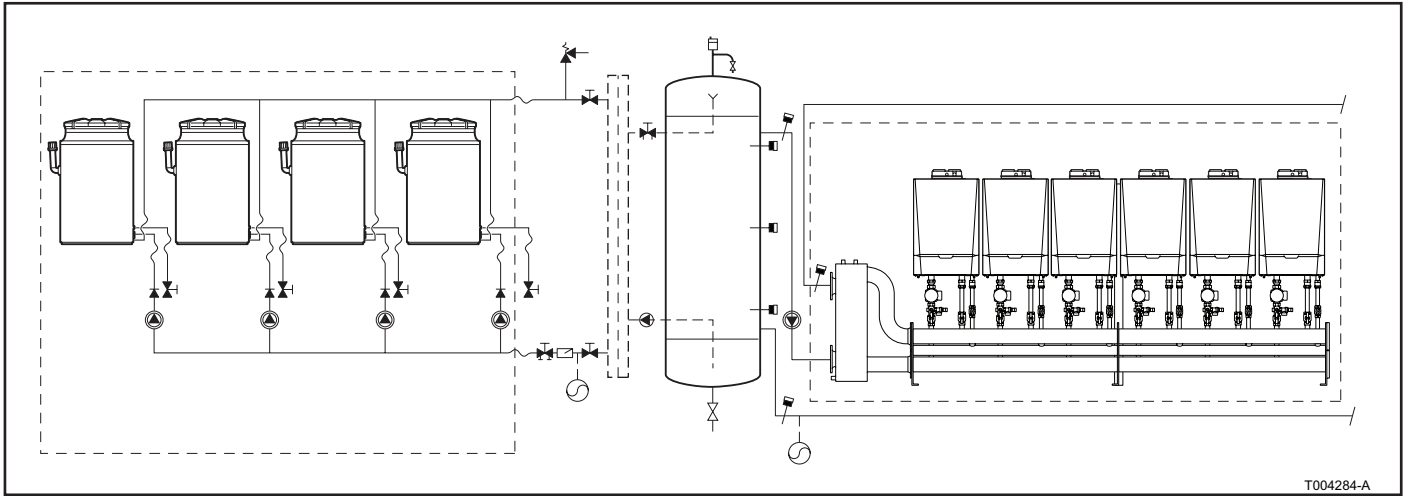
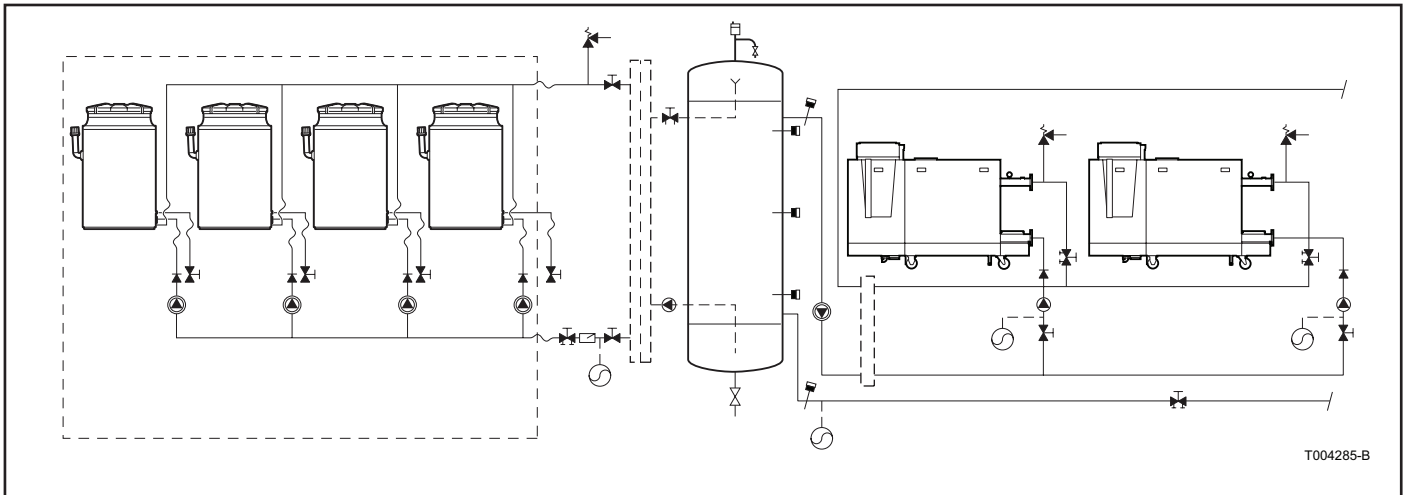

Fig. 02 Hydraulic diagram with Quinta Pro boilers
Fig. 03 Hydraulic diagram with Gas 310 boilers
- The system's design flow temperature can be selected above the maximum temperature of the heat pump when the extra boilers are hydraulically connected to the heat pumps in series (see also Fig. 02 and Fig. 03).